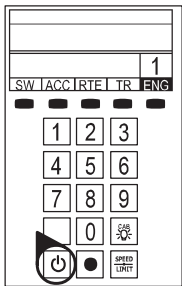

Figure 4. Start-up
6. Press the Start Up key on your LEGACY CAB-2 Remote, shown in Figure 4. Then, throttle up and move 'em out! Your engine sound will start up, and the locomotive-specific touch screen buttons will populate the remote. For more information on operating your locomotive with the LEGACY system, please refer to the LEGACY section of this manual. Additional information is also found in the LEGACY System Manual, available online at www.lionel.com.